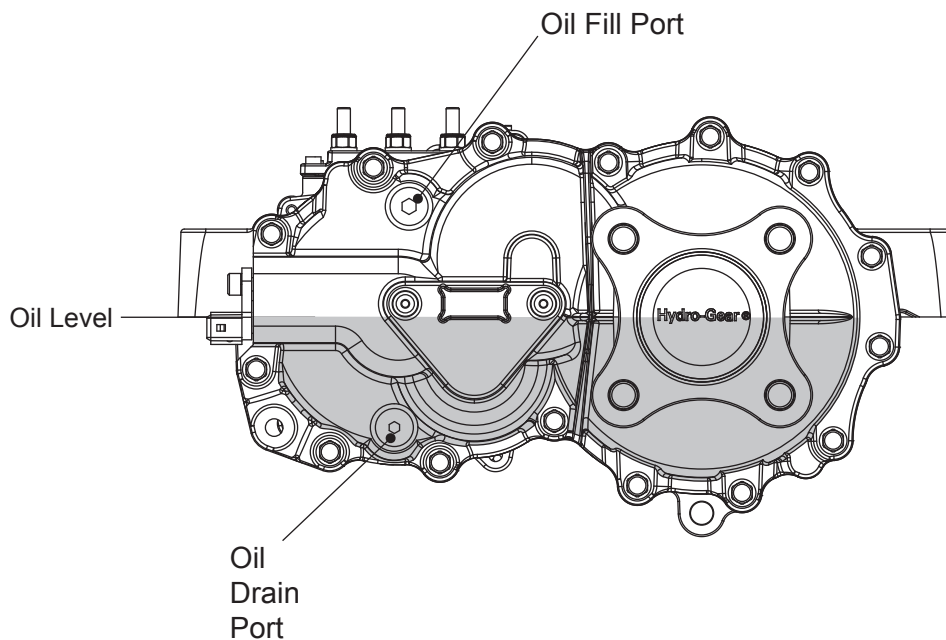

Figure 6. Oil Volume
2. Check oil level in accordance with Figure 6 Page 15.
Certain situations may require additional fluid to be added or even replaced. Refer to Figure 6, Page 15 and page 3 for the proper fill port location.
Fill the Smartec™ transaxle according to Figure 6, page 15 or the specifications below.